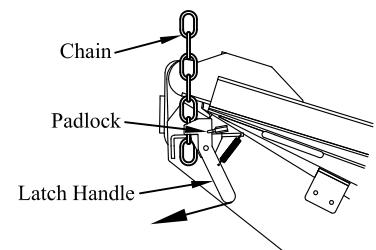

Figure 9: Steps 17 and 18.
- Step 16. Latch the liftgate by pulling on the latch lever, engaging the latch chain into the latch, and then releasing the latch lever (Figure 9).
- Step 17. Always install the padlock on the latch and deactivate the control when not in use (Figure 9).